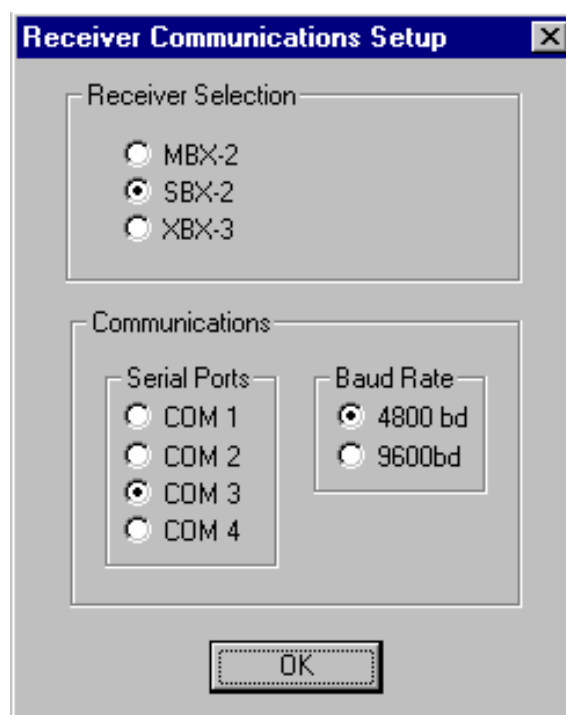

Figure 88 Receiver Communication Setup
2. Check that the **Receiver Communication Setup** is as Figure 88. Press **OK**.